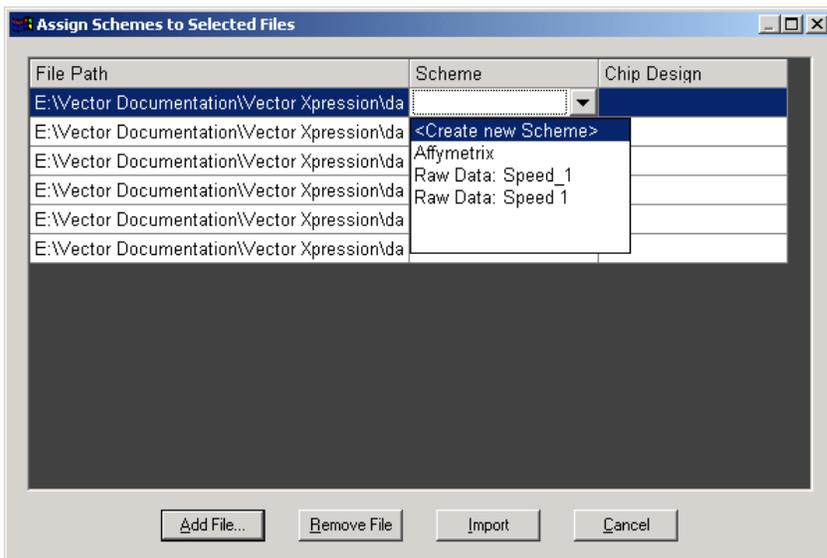

Figure 4 Assign Schemes to Selected Files dialog box
2. This opens the Assign Schemes dialog box (Figure 4).